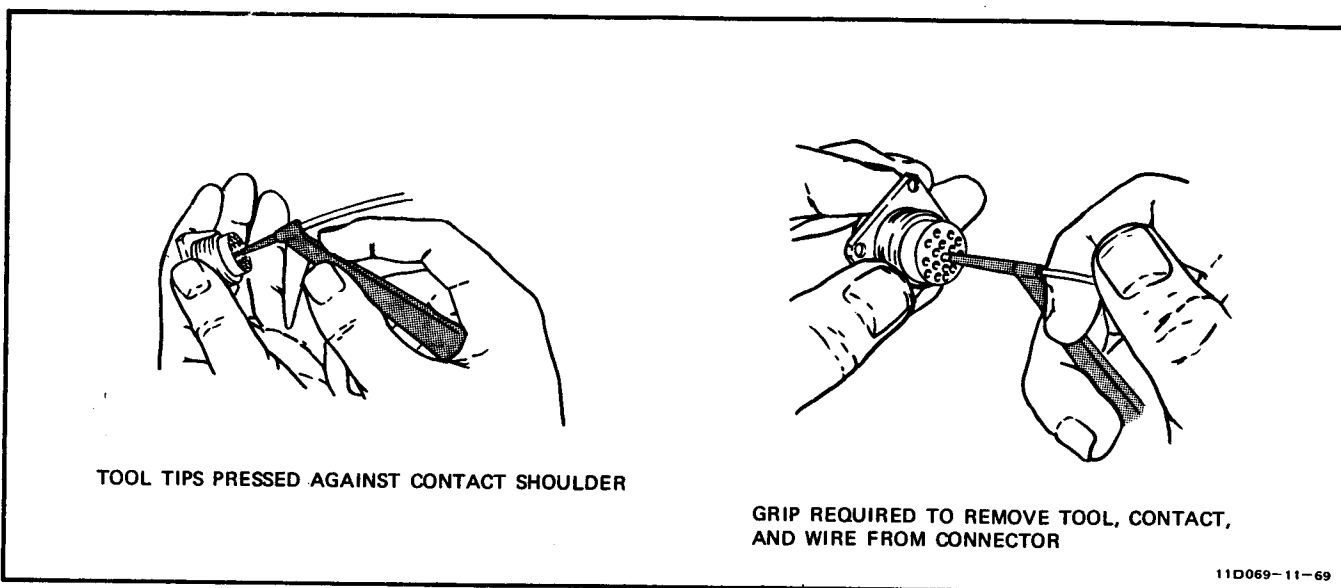

Figure 11-8. 11-8675 Extraction Tool Operation
11-20. Extraction Tools - 11-8675-16 and 11-8675-20. (See figure 11-8.) These tools are stored in drawer 3 of tool set cabinet and used as follows:
e. Grip tool and wire as shown in figure 11-8 while maintaining pressure and simultaneously remove the tool, contact, and wire from connector.